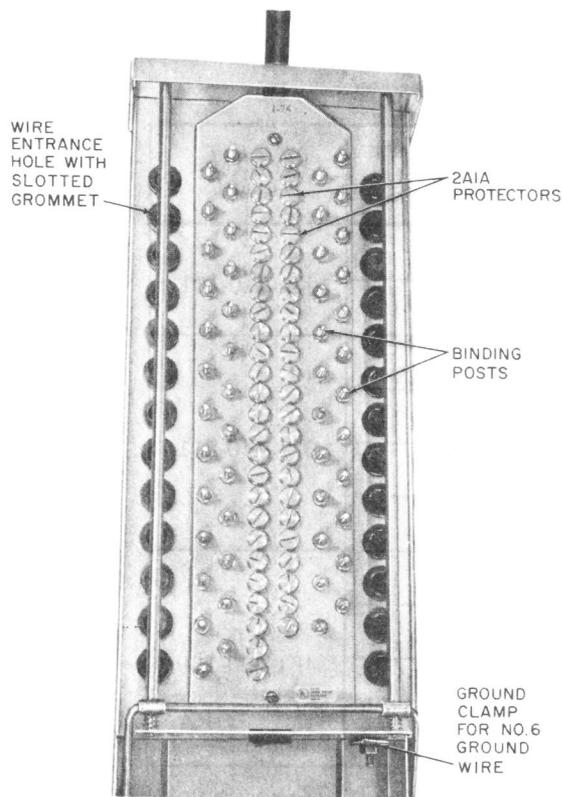

Fig. 10—NH25 Cable Terminal
**3.13** The NH25 cable terminal (Fig. 10) has fifty binding posts, fifty 2A1A protector units, and the housing is equipped with a drop-type cover. It may be pole- or wall-mounted. Where the NH25 cable terminal is wall mounted on a customer's premise, it must be bonded (grounded) to an acceptable ground (Table D).